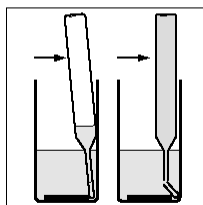

Figure 2
2. Place the Auto-Test cuvette in the sample cup. Snap the tip by pressing the cuvette against the side of the cup. The cuvette will fill, leaving a small bubble to facilitate mixing (**fig. 2**).